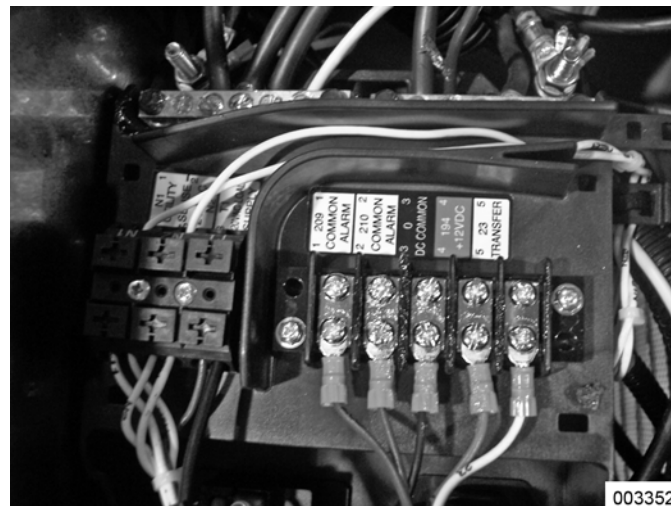

Figure 5-62.
22. **Remove Stator Wires:** See Figure 5-62. Remove all connectors from the controller, remove all wires the common neutral and ground wires from landing lugs, and remove wires from main breakers.
24. **Rear Bearing Carrier Removal:** See Figure 5-62. Use a 13 mm socket to remove the two nuts from the alternator mounting bracket rubber mounts.